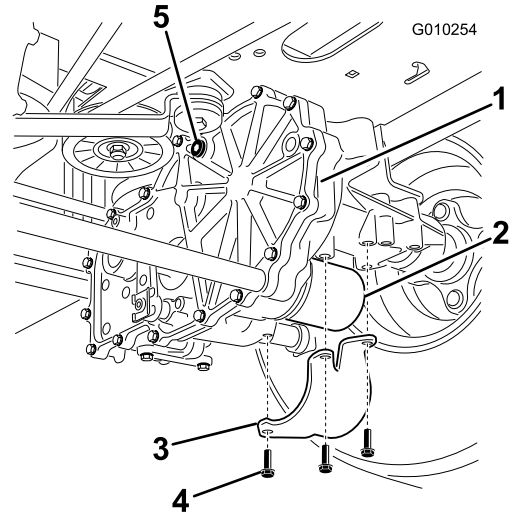

Figure 50
2. Locate the filter and guards on each transaxle drive system and remove the 3 screws securing the filter guard (Figure 50).